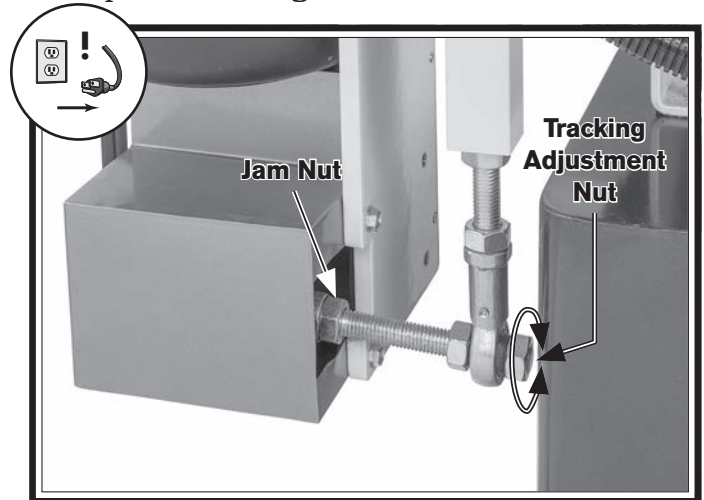

Figure 42. Belt tracking components.
5. Loosen jam nut shown in **Figure 42**.
6. Turn tracking adjustment nut counterclockwise to adjust tracking downward or clockwise to adjust tracking upward (see **Figure 42**).